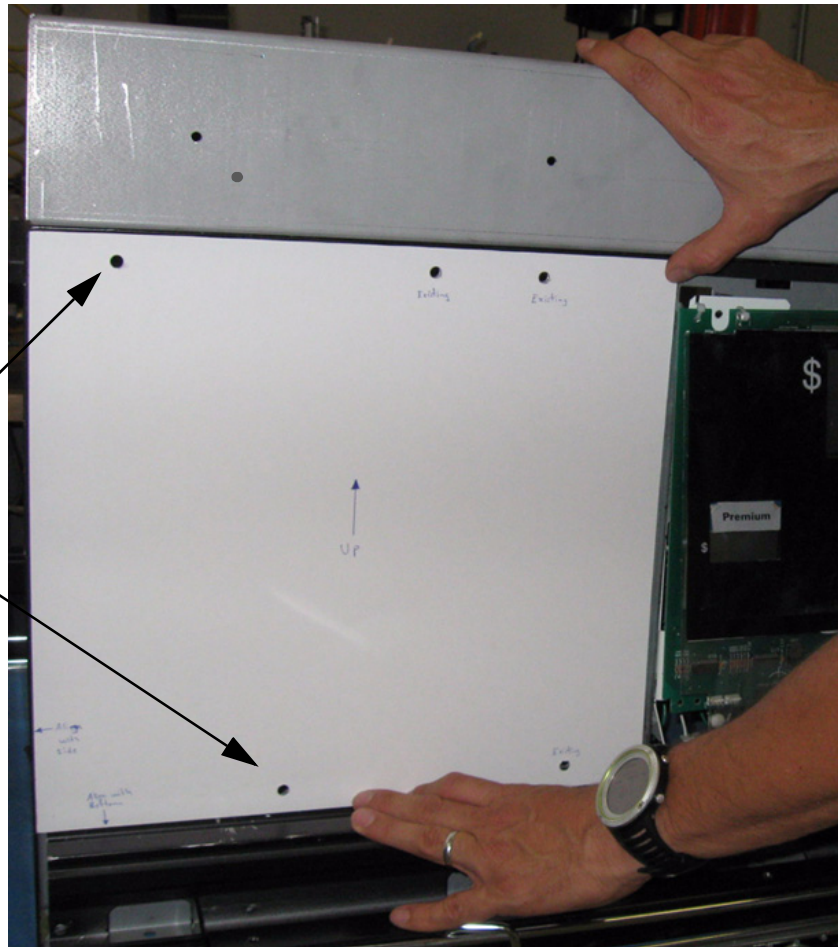

FIGURE 10
10. Using the metal template provided, align the two holes at right end of template with the two holes on the head frame, then mark the location for one new hole at top left end of template and one new hole at bottom left end of template. Fig 10.